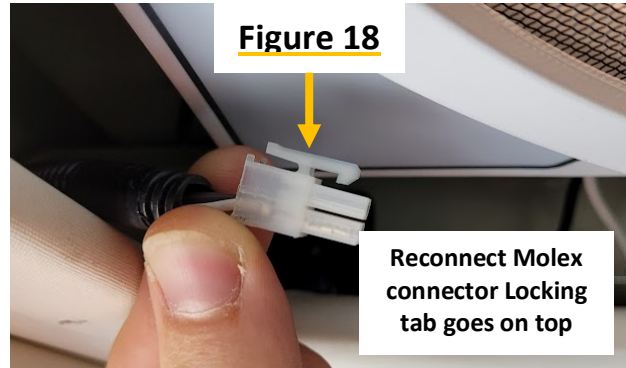

Figure 18
- c. Reconnect the Molex connector to the circuit board. Ensure the locking tab is positioned to the top. **See figure 18.**